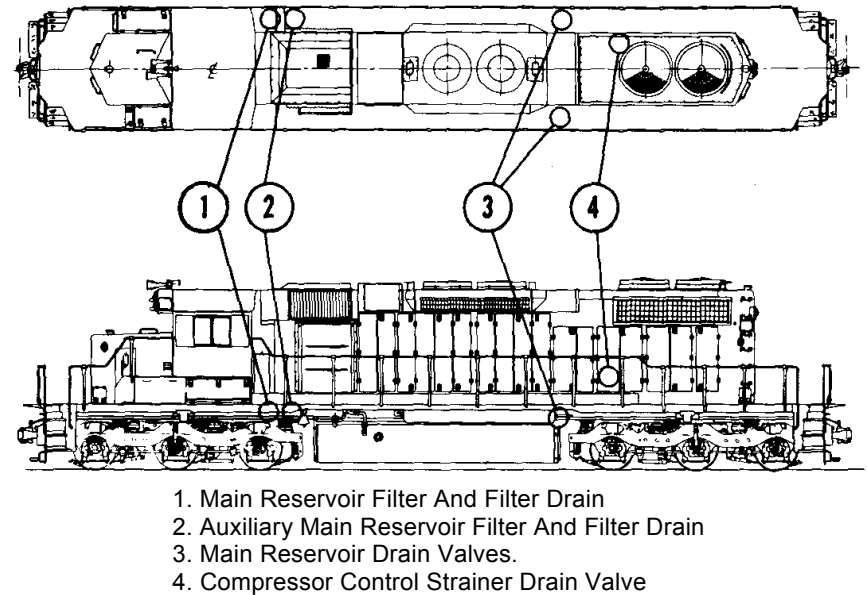
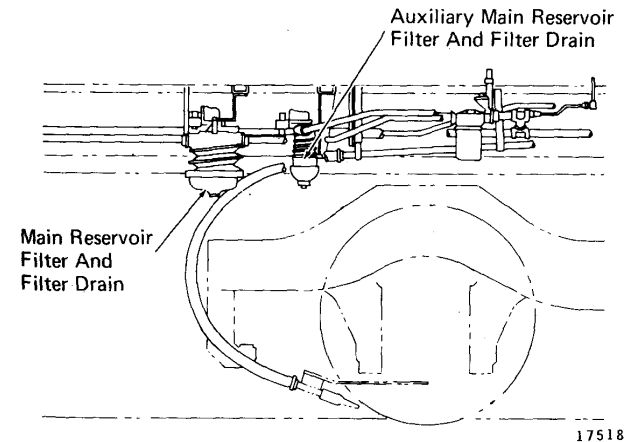
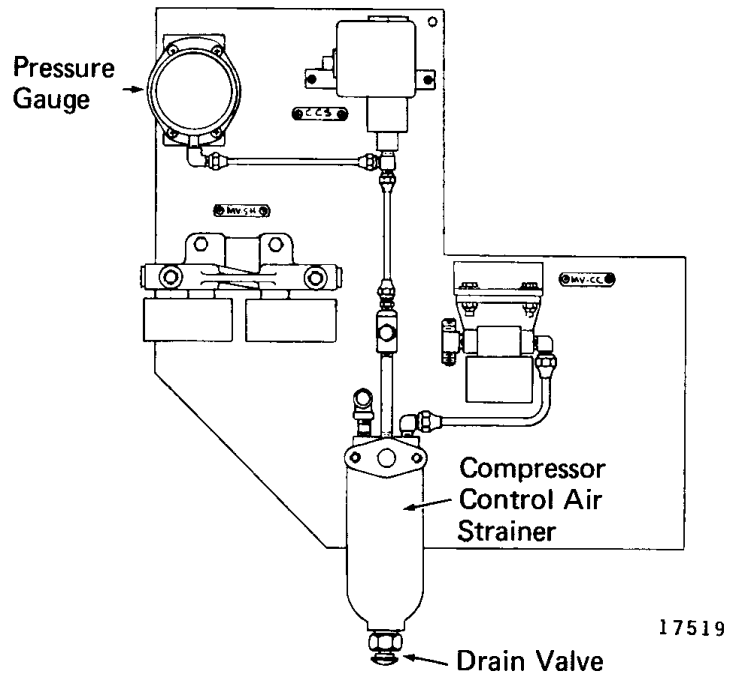

Fig. 3-4 - Compressed Air System Drain Valve Locations
Fig. 3-5 - Main And Auxiliary Main Reservoir Centrifugal Filters And Filter Drains
Fig. 3-6 - Compressor Control Strainer
1. Momentarily operate the manual override lever on auxiliary main reservoir centrifugal filter, 2, Fig. 3-4 and Fig. 3-5.
2. Momentarily operate the manual override lever on the main reservoir centrifugal filter, 1, Fig. 3-4 and Fig. 3-5.
3. Momentarily open the main reservoir drain valves, 3, Fig. 3-4.
4. Press up on the pushbutton at the base of the compressor control strainer drain, 4, Fig. 3-4 and Fig. 3-6.